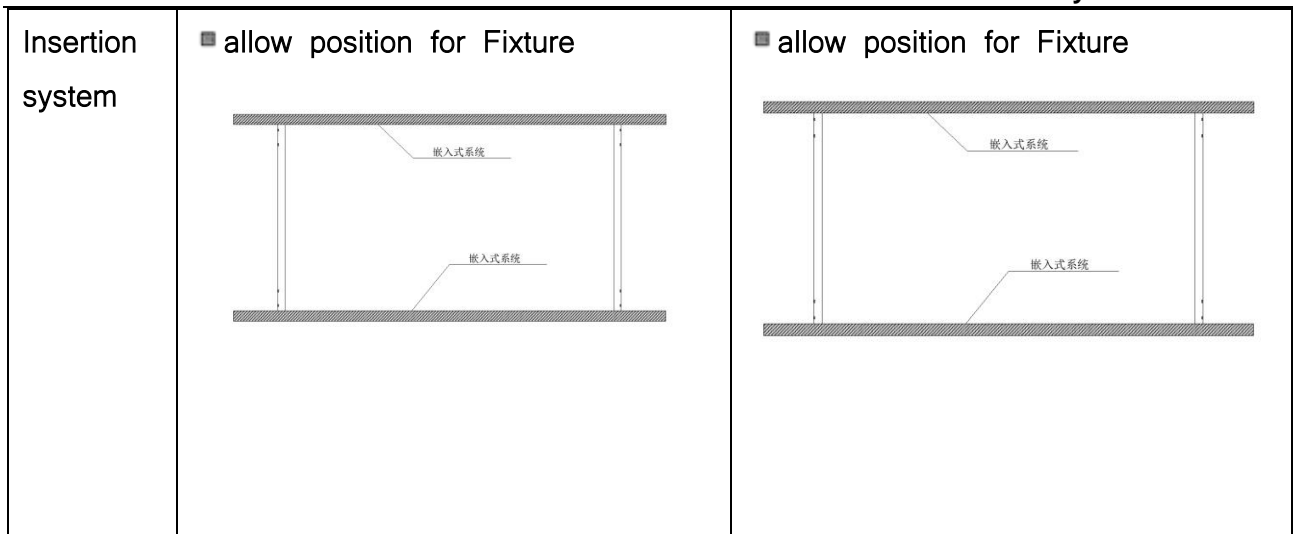

figure4
- Select the proper installation method depending on the load, please refer to figure4 for details (width of clamp $\geq 40\text{mm}$):